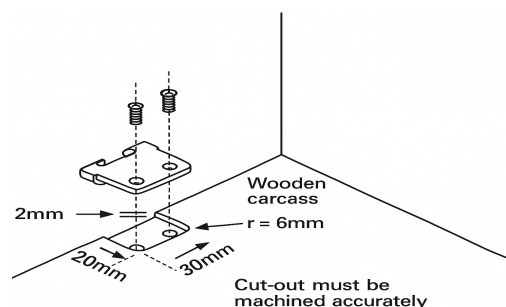

FIG 2
- If a wooden carcass receiver (SRSDBGW03) is used, a cut-out must be accurately machined prior to assembly (see Fig. 2).